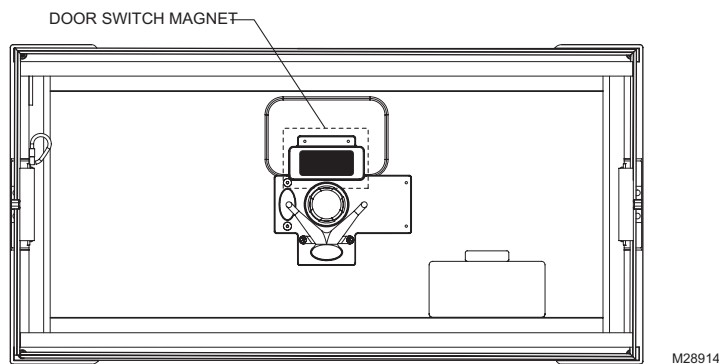

Fig. 16. Door Switch Magnet
- a. Attach the Honeywell Enhanced Air Cleaner door to the cabinet. A magnet in the door (see Fig. 16) is used to activate a safety switch in the power supply when the door is installed. The power supply will not energize the air cleaner unless the safety switch is activated.
**NOTE:** A magnet in the door (see Fig. 16 on page 19) is used to activate a safety switch in the power supply when the door is installed. The power supply will not energize the air cleaner unless the safety switch is activated.